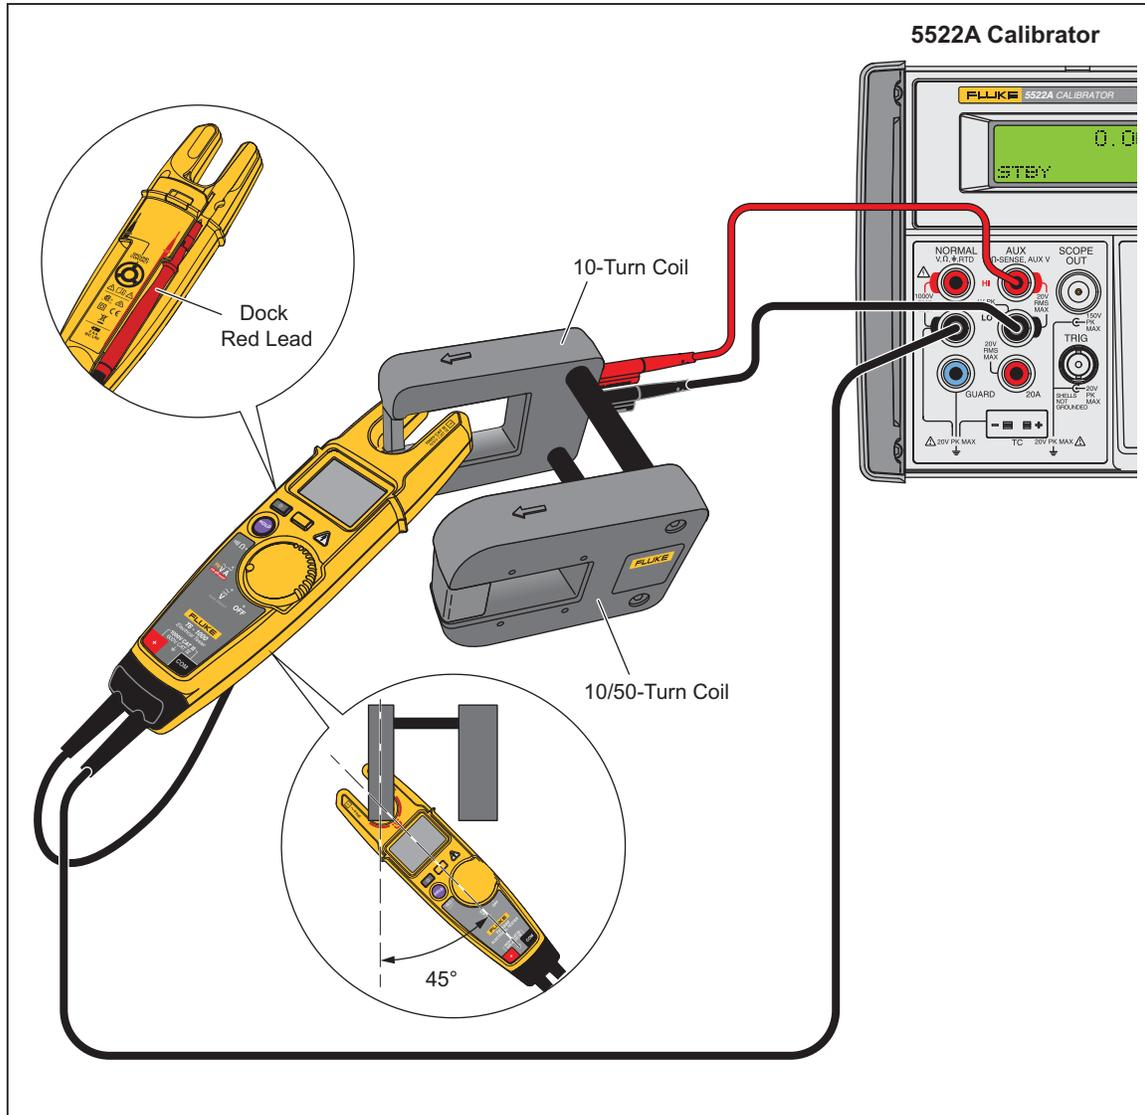

Figure 1. 10/50-Turn Coil
The tests in this section require the use of a 10/50-turn coil. See Figure 1.
5. Place the Product current fork on the 10/50-turn coil. See Figure 1.